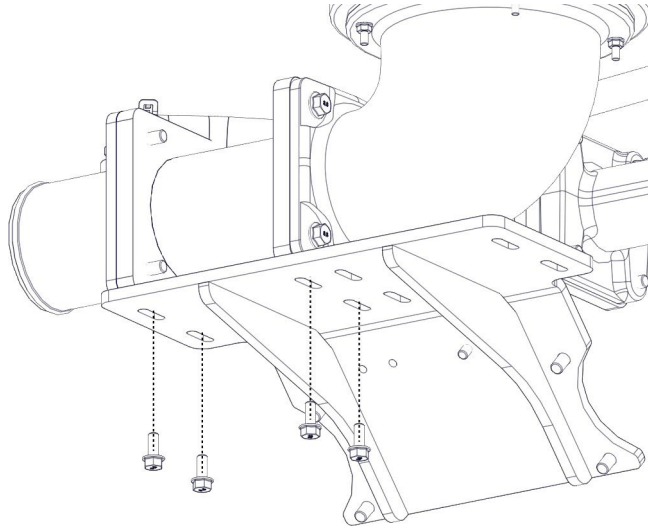

Figure 25.
1. Remove all four bolts underneath the nozzle (Figure 25).